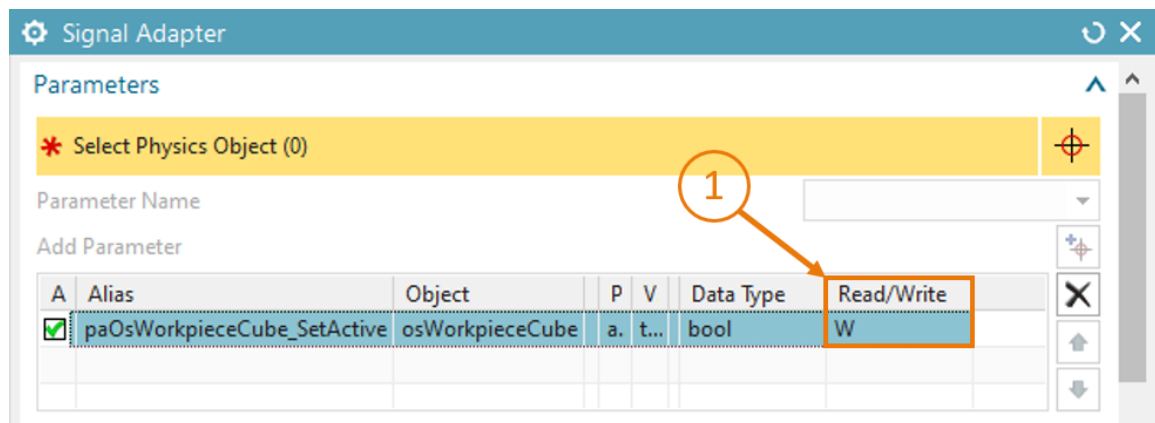
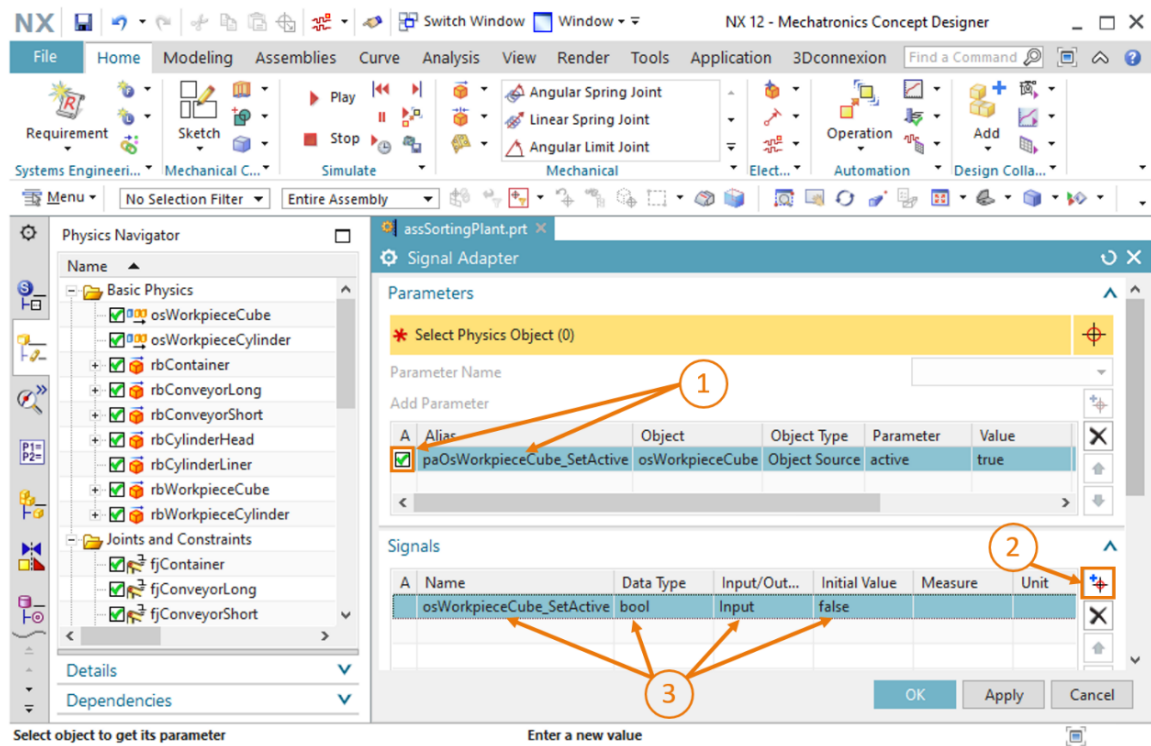

Figure 6: Read/Write property of a parameter
Figure 7: Creating a suitable signal for a parameter
- The parameter you have just selected can then be seen in the table in the **"Parameters"** group. Change its alias name to **"paOsWorkpieceCube_SetActive"** (see Figure 7, step 1). The prefix **"pa"** is meant to stand for **"parameter"** so as to have a clear distinction from a signal name. Also click on the box at the beginning of the table so that you can later assign a signal to the parameter. This is indicated by a check mark ☒. If you scroll to the right in the **"Parameters"** group, you can see other properties of the parameter, such as the **"Read/Write"** property, which indicates whether a parameter can be read (**"R"** for Read) or written (**"W"** for Write). The current parameter **"paOsWorkpieceCube_SetActive"** can only be written (see Figure 6, step 1).
- Now you still need an associated signal to which the parameter is to be connected. For this, click on the **"Add"** button in the **"Signals"** group (see Figure 7, step 2). A new signal appears. Adapt the properties of the signal in line with the parameter. To do this, double-click on the default name of the signal **"Signal_0"** and rename it **"osWorkpieceCube_SetActive"**. The same data type must be selected for the signal and for the associated parameter. That is **"bool"** in this case. The value of the **"Input/Output"** property must be selected in accordance with the **"Read/Write"** property of the parameter. For a parameter that must be written, the signal must be an input from an external source from the perspective of MCD. For a parameter that will be read, the signal must be an output to an external program. Because the current parameter **"paOsWorkpieceCube_SetActive"** will be written, the **"Input"** value must be selected for the **"osWorkpieceCube_SetActive"** signal. The selected initial value in the table must be equated with the initial value of the signal. In this case, this is **"false"** (see Figure 7, step 3).